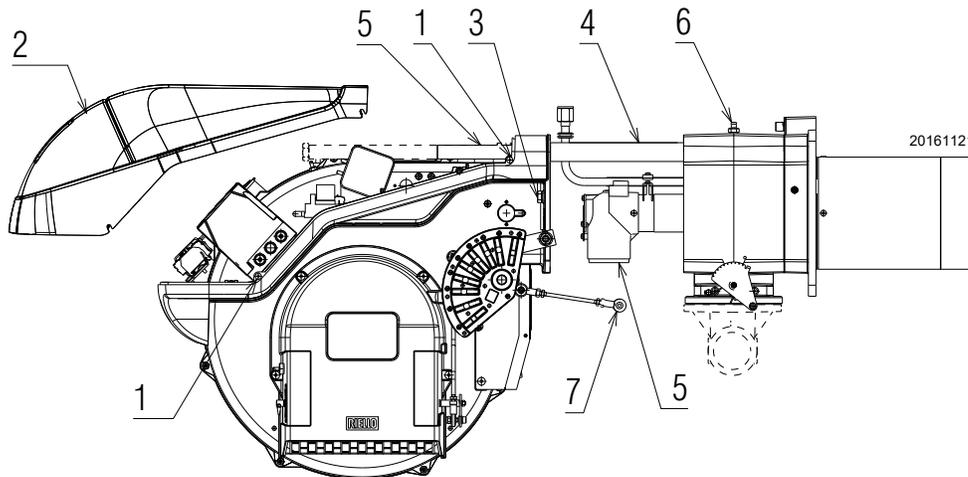

Fig. 49
If in doubt, disassemble the elbow fitting 7)(Fig. 49, page 36).
- remove screws 1)(Fig. 49) and withdraw the cover 2);
- push the burner 13)(Fig. 49) at approximately 4" from the electrical board 14);
- insert the ignition electrode cables and then slide the burner up to the sleeve so that it is positioned as shown in Fig. 49;